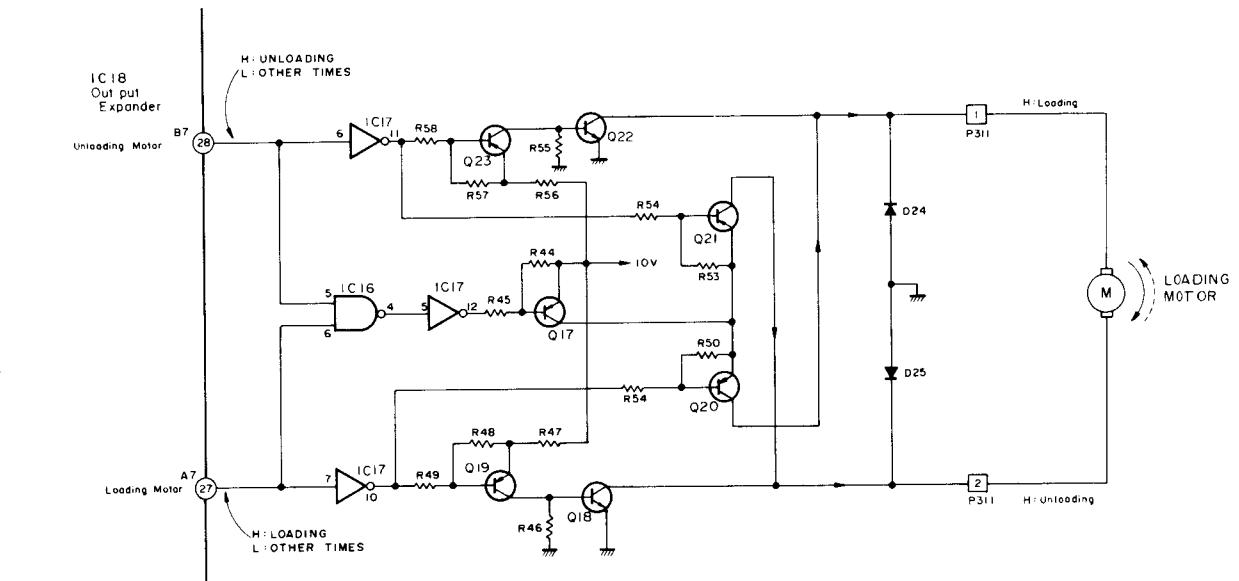

Fig. 3-4
- Change the direction of motor rotation by switching the motor current polarity between loading and unloading. In Fig. 3-4.